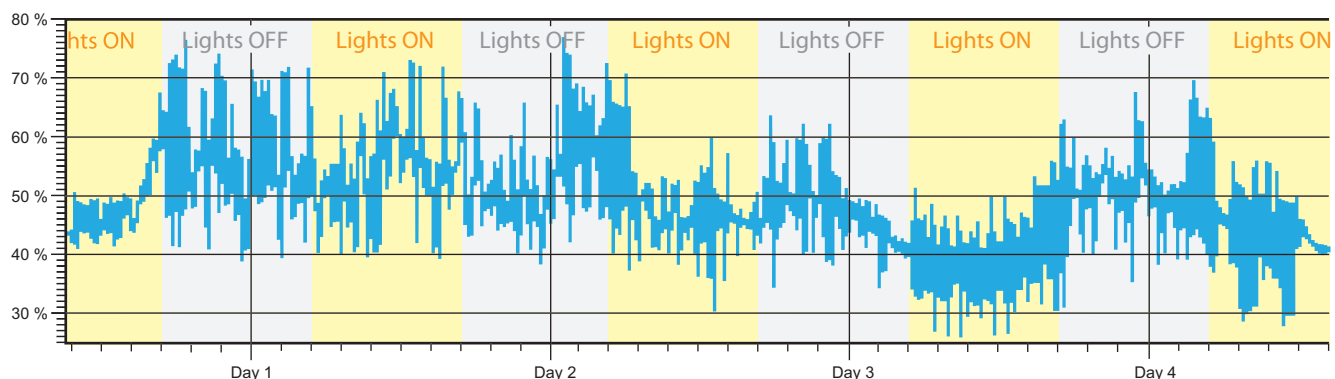

Figure 2- Air conditioner/portable dehumidifier control results for grow room A
- Temperature and relative humidity are constantly fluctuating (See Figure 2).